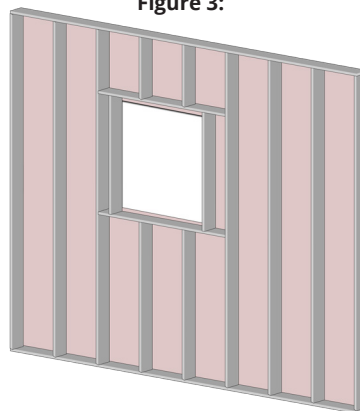

Figure 3:
5. Using conventional framing methods in accordance with local building requirements and codes, build a frame around the RO to support the unit and maintain structural integrity of the wall as needed. (Fig. 3)